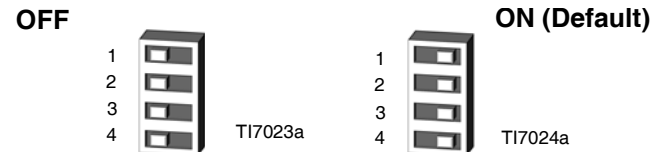

FIG. 10 DIP Switch (SW2) Settings
2. Set the four DIP switches to the desired positions. See FIG. 10, page 30, and TABLE 5, page 31.